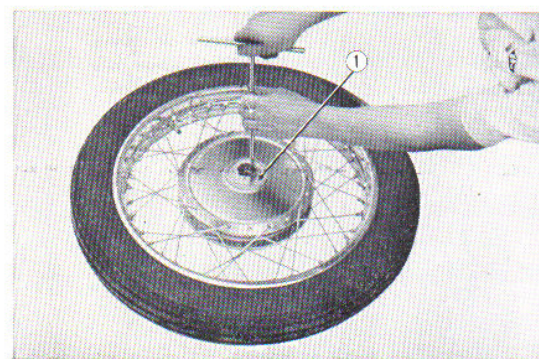

Fig. 4.76 Removing the bearing retainer
6. Remove the panel, bearing retainer, two 6302Z ball bearings, front axle distance collar and disassemble the front wheel hub. (Fig. 4.76)